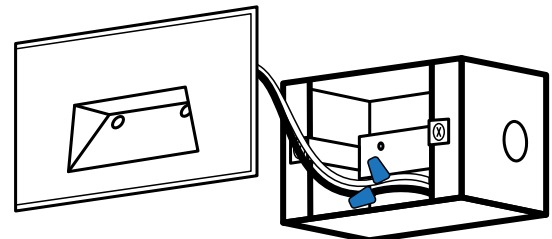

Figure 3
4. Connect fixture wires to junction box wires using UL approved gel filled wire nuts. Place all wiring and connectors into junction box with room to install fixture. See figure 3.